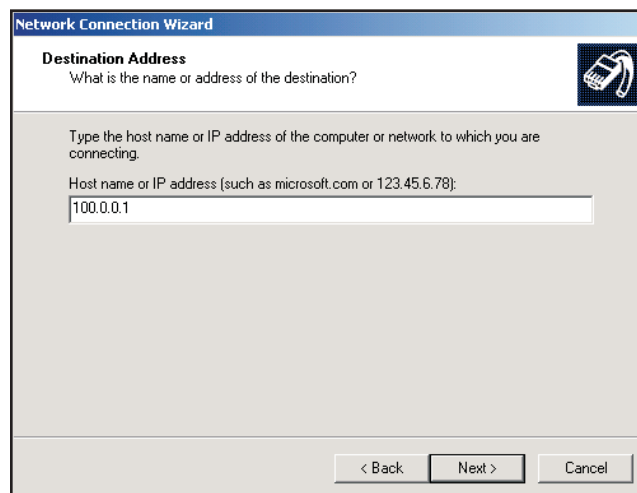

Figure 188 Entering the IP Address
7. Enter a Host IP of 100.0.0.1 as shown in Figure 188. Click on **Next**.